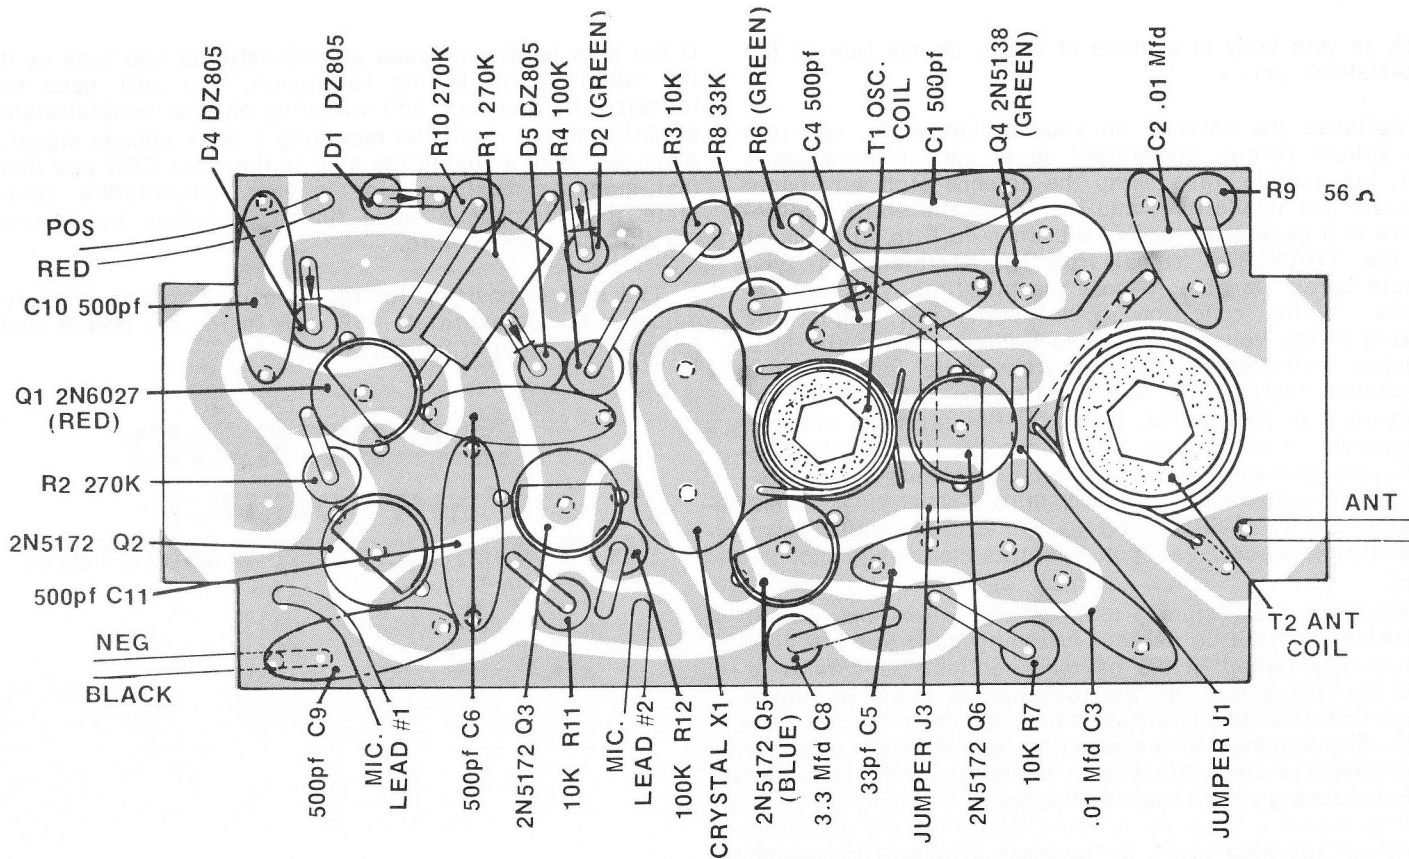

FIG. 1B, "B" CONFIG. TRANSROC, MIC. MODE
If your TRANSROC is of the "B" configuration, it will look like Figures 1B, 2B, and 3B, and the modification steps will be per the instructions which appear below. Refer to Figures 1B and 2B in this manual and Figures 1 and 2 in the "TRANSROC Owner's Manual" as you complete the following steps:
- 3B. () Install R10 (the same 270K resistor removed in the previous step). (See Figures 1B and 2B.) Be
- 4B. () Install Q2 (a 2N5172 transistor). See Figures 1B and 2B for the proper orientation.
- 5B. () Install C9 and C11 (two 500 pf ceramic capacitors). (See Figure 1B.)
- 6B. () Install R11 (a 10K resistor - brown, black orange, silver). (See Figure 1B.)
- 7B. () Install R12 (a 100K resistor - brown, black, yellow, silver). (See Figure 1B.)
- 9B. () Install C8 (the same 3.3 mfd tantalum capacitor removed in the previous step from the C7 position). Be sure to observe polarity. The positive lead of this capacitor (marked with red or a + sign) mounts "up" (away from the PC board). (See Figures 1B and 2B.)
- 10B. () Thread the microphone leads through the large hole in the bottom mount, and connect them (either polarity) to the two eyelets reserved for that purpose. (See Figures 1B and 2B.) Be sure
- 11B. () Inspect the completed assembly to verify that it is like Figures 1B and 2B.
Refer to Figures 1B and 2B in this manual and Figure
- 1B. () Desolder and remove the microphone leads from the PC board. (See Figures 1B and 2B.)
- 2B. () Desolder and remove R10. (See Figures 1B and 2B.)
- 4B. () Desolder and remove C8 (a 3.3 mfd tantalum capacitor). (See Figures 1B and 2B.)
Refer to Figures 1B and 2B in this manual and Figure 23 in the "TRANSROC Owner's Manual."
the previous step). (See Figure 1B and 2B.) In making this change, you will need to completely remove and re-install the resistor since it is likely to break if you merely attempt to desolder and move the top lead to the other eyelet.
- 6B. () Install C8 (the same 3.3 microfarad tantalum capacitor removed in the previous step). (See Figures 1B and 2B.) Be sure to observe polarity. The positive lead (marked with red or a + sign) mounts "up" (away from the PC board).
- 7B. () Connect the microphone. (See figures 1B and 2B.)
- 8B. () Inspect the TRANSROC to verify that it looks like Figures 1B and 2B.